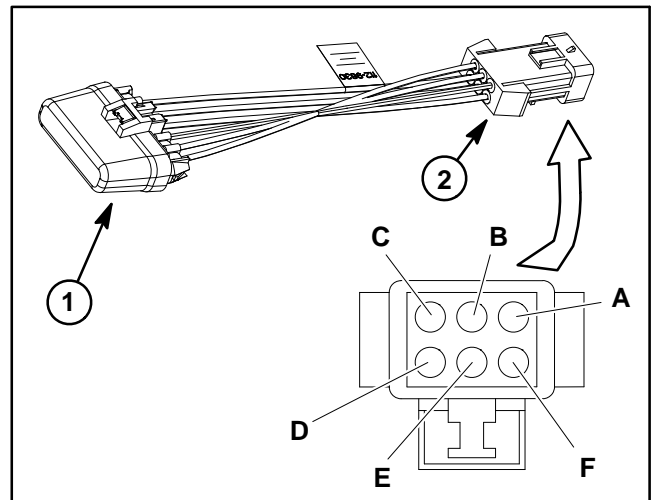

Figure 83
3. Using a multimeter, measure resistances between module connector terminals as follows (Fig. 83). If any of the measured resistances vary by more than 10%, replace location ID module.